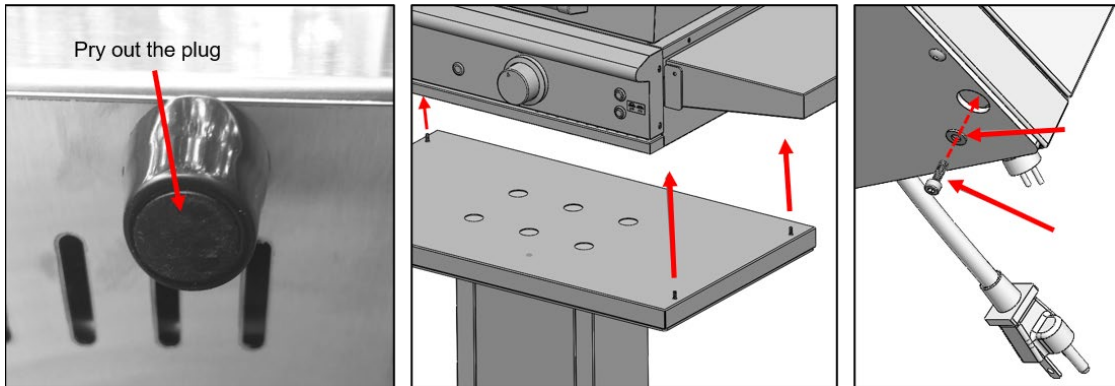

Figure 8 Attach Grill to Platform
- a. Remove the plug from the center of each foot (Figure 8 left)
9. Position the grill onto the platform aligned with the screw holes (Figure 8 center)
10. Insert four mounting screws and washers through the large holes to the top surface, through the feet, and into the grill screw holes (Figure 8 right)